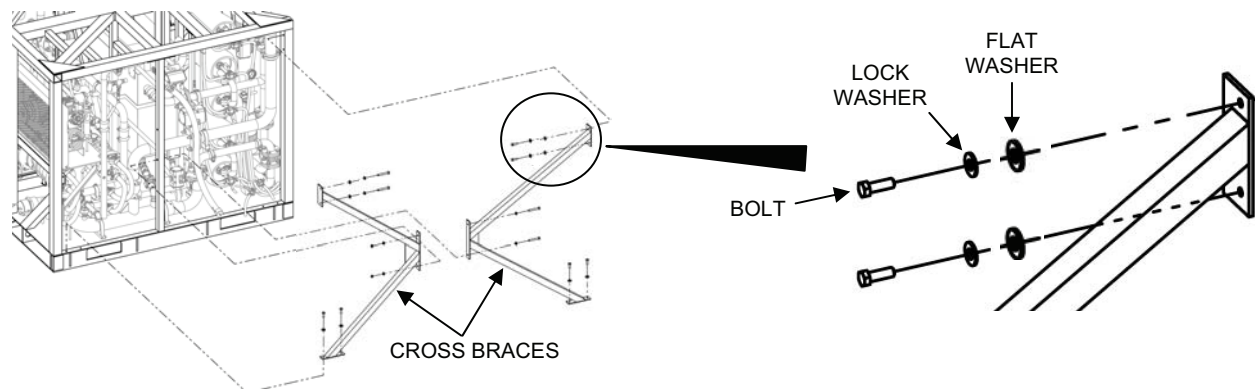

Figure 1. TWPS Frame Cross Brace Removal – Right End.
- c. Tag and remove the frame cross braces (see Figure 1).